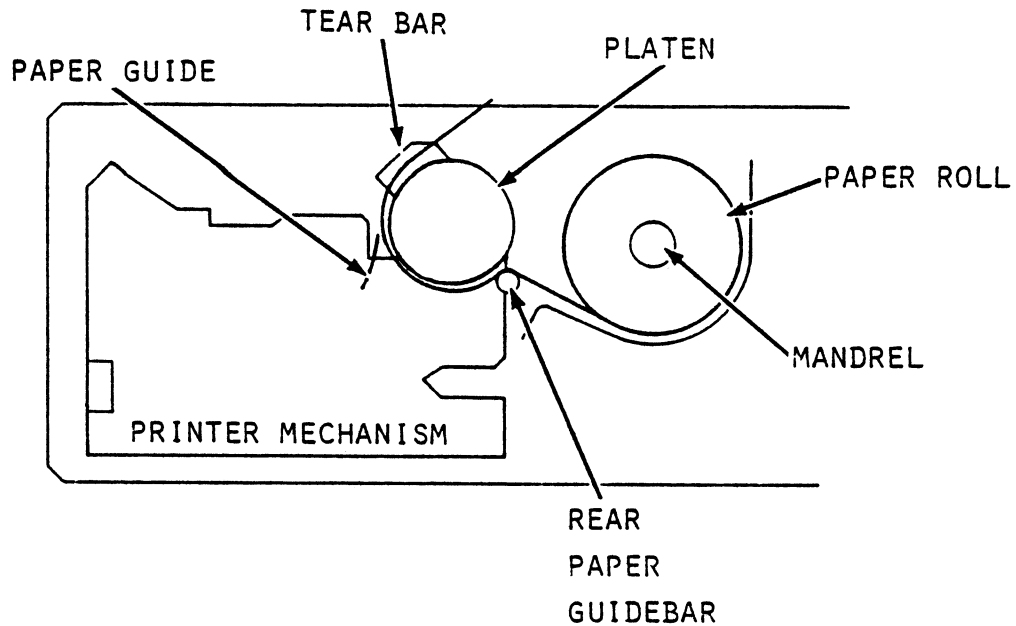

Figure 5-9. Paper Installation Guide
3. Insert the paper at the bottom rear of the platen using the nylon bushings as a guide. (Refer to Figure 5-9)